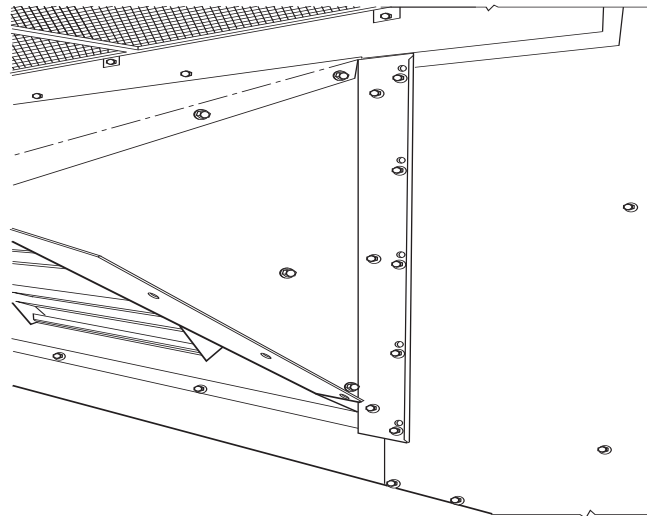

Fig. 21 - Bracket and Hood Positioning
4. With screws saved from Step 1, install brackets on each side of damper assembly. (See Fig. 21.)